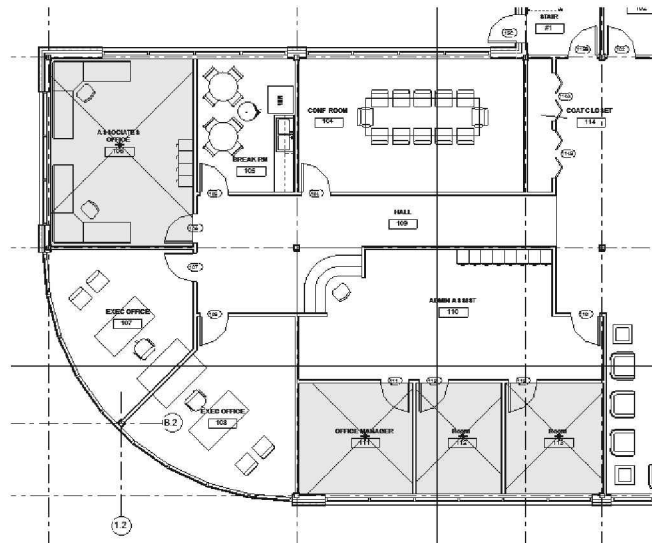

FIGURE 12-3.5 Level 1 rooms selected
14. In the **Level 1** plan view, select the *Rooms* (not the *Room Tags*) for the offices shown – 4 total (Figure 12-3.5).